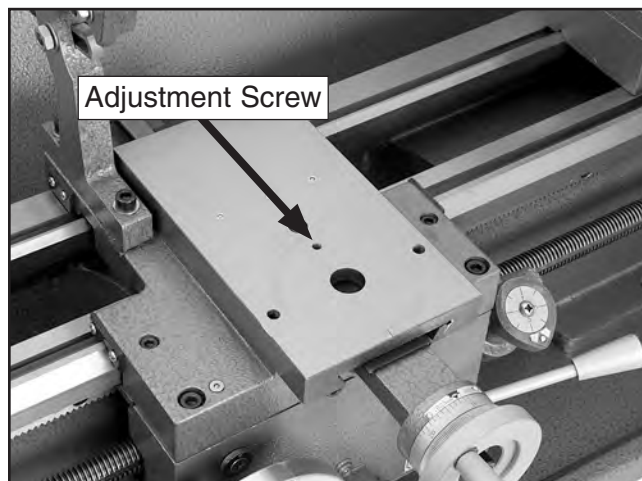

Figure 85. Cross slide backlash adjustment set screw (compound slide removed).
3. Adjust the backlash adjustment cap screw shown in **Figure 85** in small increments.